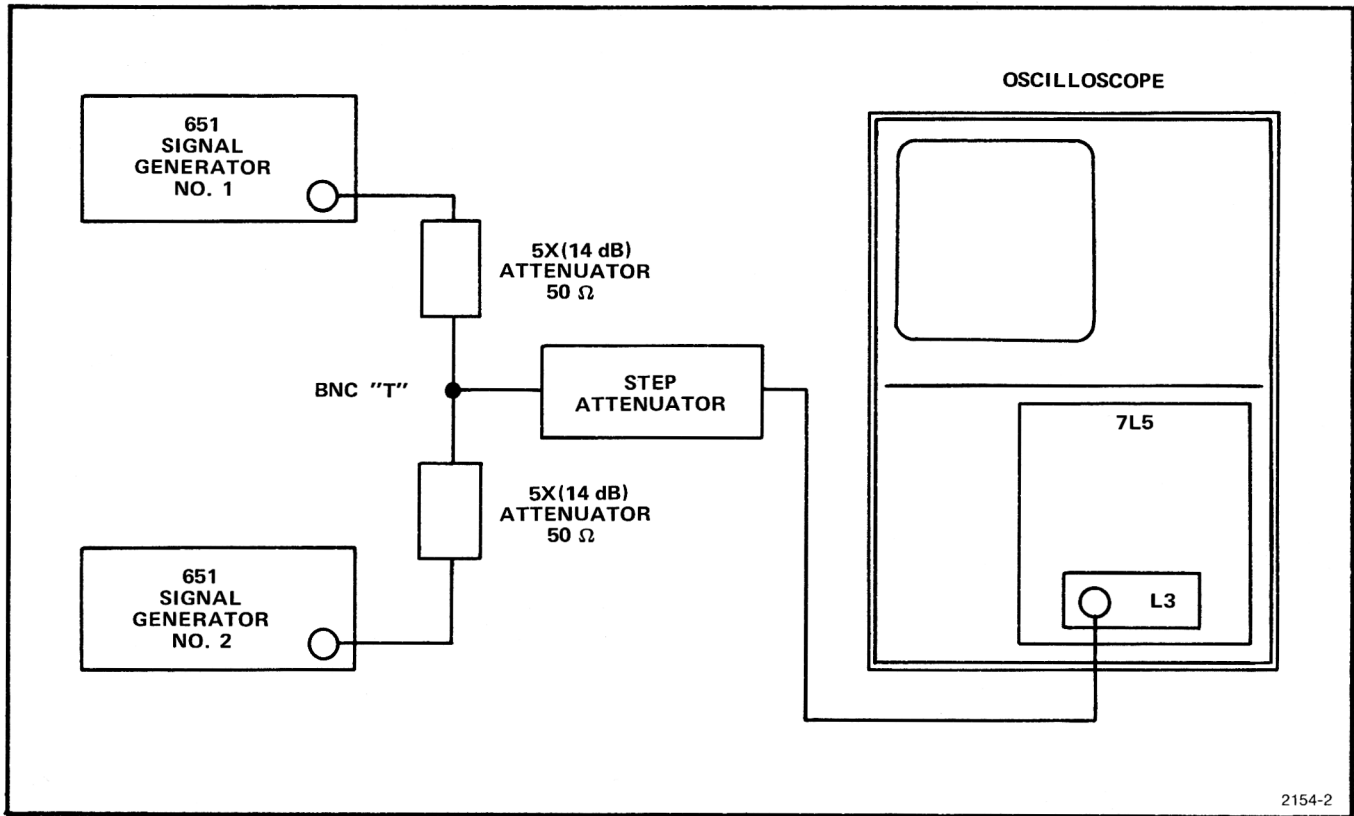

Fig. 3-1. Intermodulation distortion test equipment setup.
b. Connect two signal generators, such as HP654 or 651, plus the attenuators, as shown in Fig. 3-1. Set the step attenuators for 32 dB of attenuation, and adjust the signal generators for two full-screen signals one division apart (such as 4495 kHz and 4500 kHz).